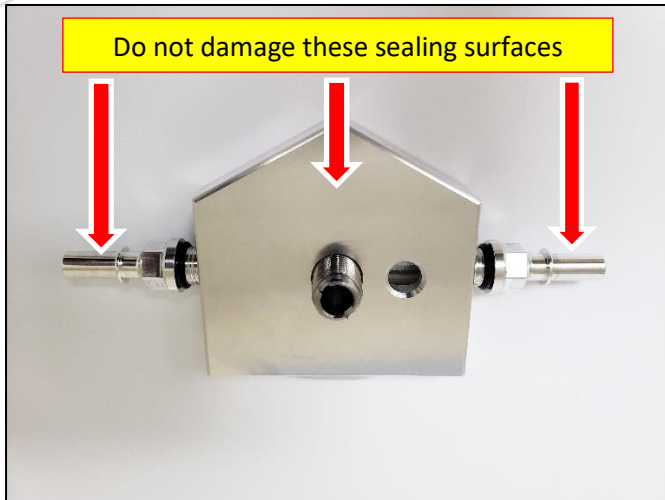

Figure 1: Torque Fittings to 120 in-lb (10 ft-lb)
2. Using a 15mm deep-well socket, torque both fittings to 120 in-lb (10 ft-lb). **DO NOT OVERTIGHTEN or damage may occur (Figure 1).**